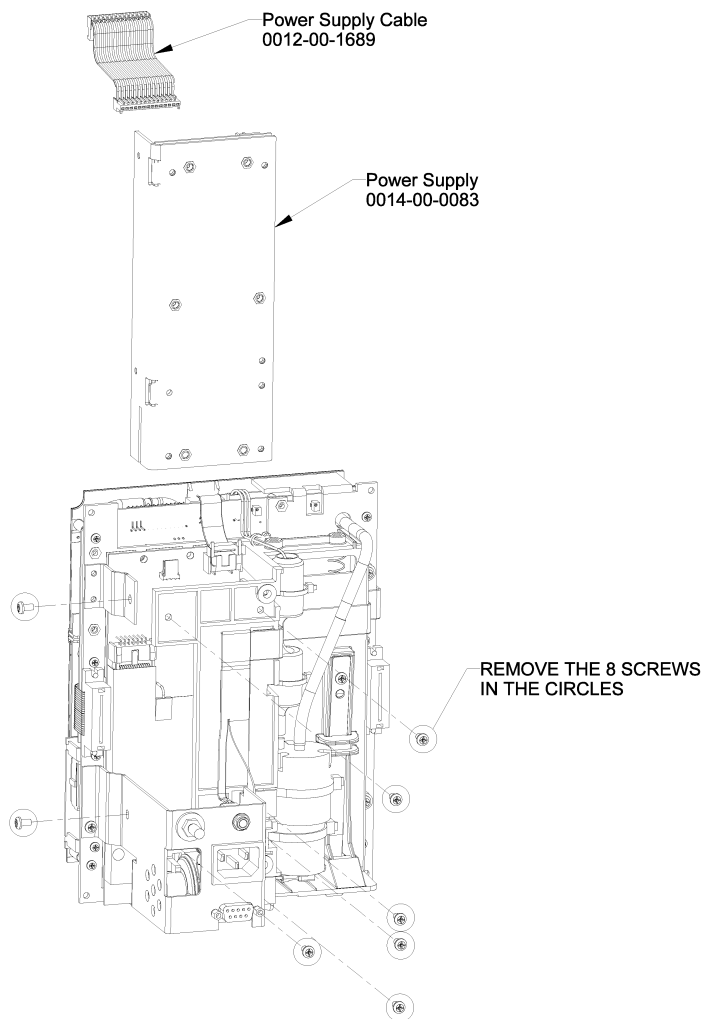

FIGURE 3-1 Power Supply Assembly Diagram
3. Remove screws as shown in Figure 3-1.